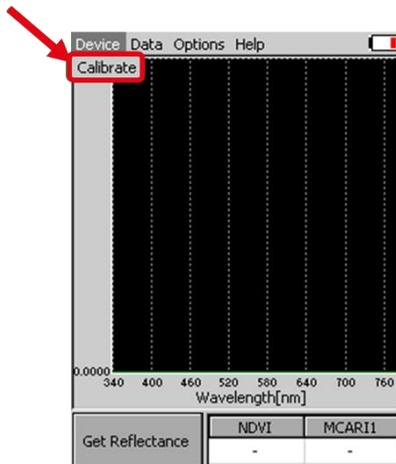

Fig. 6 Calibration of the device.
- **Calibrate** – calibration can be run any time by pressing Device > Calibrate after inserting appropriate standard in the leaf clip. (Fig. 6).